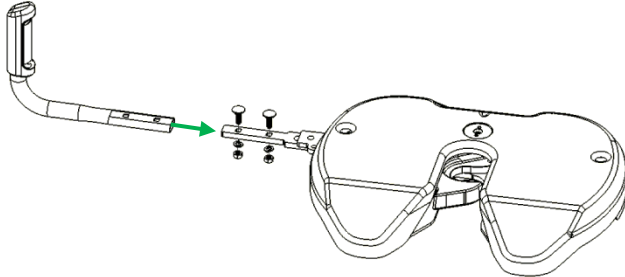

FIG. 2
- Slide handle over the bar as shown in figure 2, and securely tighten with carriage bolts, lock washers and nuts with M13 wrench. Handle should be snug.